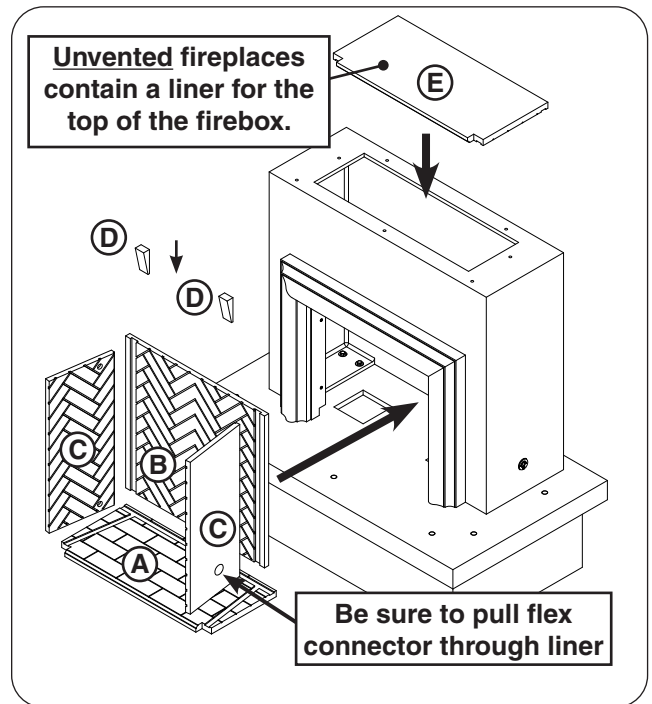

Fig. 23-1 Install firebox liners
1. Install the firebox liners into the interior of the firebox in the order shown in Fig. 23-1.